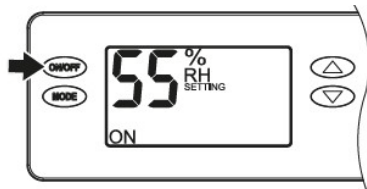

Fig. 2 – Turning the Dehumidifier On
2. Use the ON/OFF Button (Fig. 2) on the control panel to turn the dehumidifier ON. The first press of a button will turn on the display light, so if the display was dark, you might need to press it again. Once ON, the display will show the current dehumidifier setting.